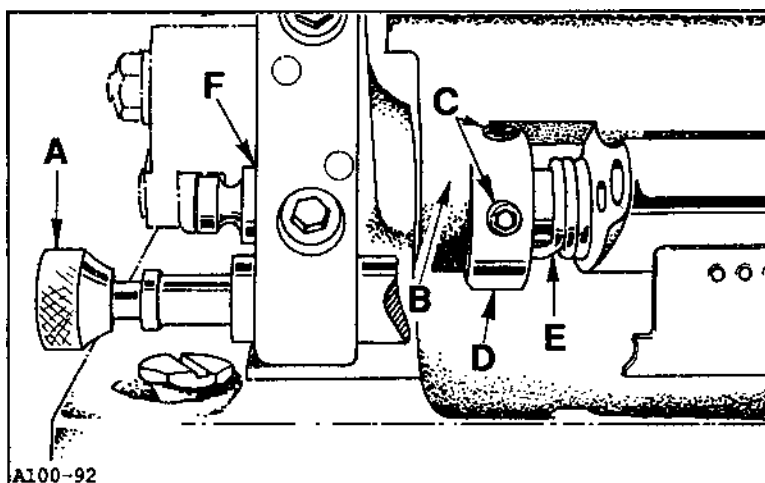

Fig. 5
Turn the handwheel in operating direction until the needles are at their highest position and pull looper throw-out knob (A, Fig. 5) to the left releasing looper holder (B) to a threading position. As viewed from the right end of the machine, loosen collar screws (C) and rotate collar (D) in a counterclockwise direction until spring (E) creates a slight tension against the back of the looper holder. Thrust "E" ring (F) and collar (D) together to remove all right to left play in looper holder (B). Tighten collar screws (C).